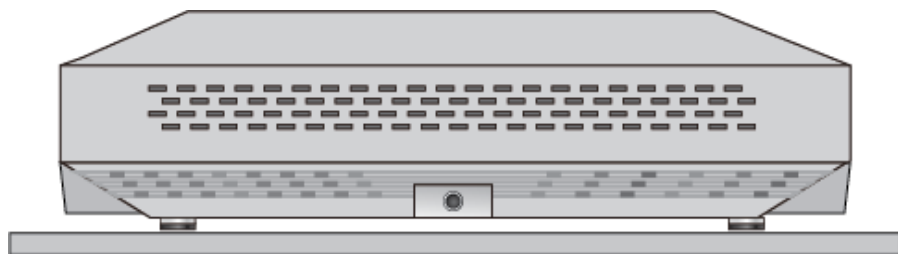

Figure 6. Device Orientations on a Table, Wall, or Ceiling
- ❑ Refer to Figure 6 on page 36 for the acceptable orientations for ceiling, wall, or table installation.
1. Choose the location and orientation for the access point on the wall or ceiling. Refer to Figure 6 on page 36.